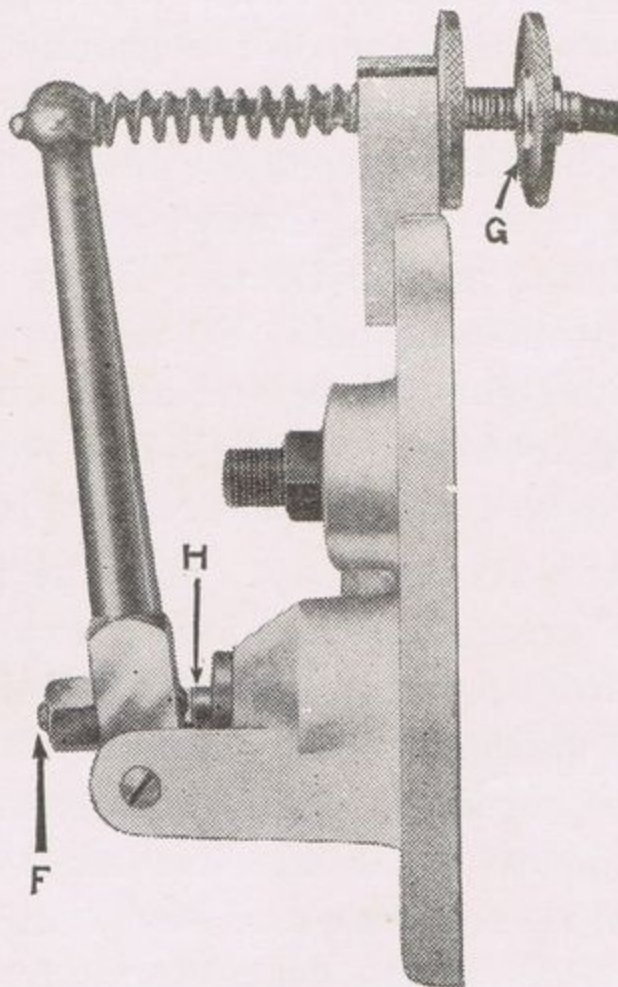

Fig. 10.
**CLUTCH OPERATION.** The adjustment should be set so that there is a little free movement between screw *F* and rod *H* (Fig. 10). If this is not so adjust the central screw *F*, having first released the lock-nut, and use the knurled thumb nut *G*, as a final adjustment only. The ball thrust should be lubricated regularly; in the case of the exposed operation type, oil every 250 miles, but the totally enclosed type should be greased about every 500 miles.